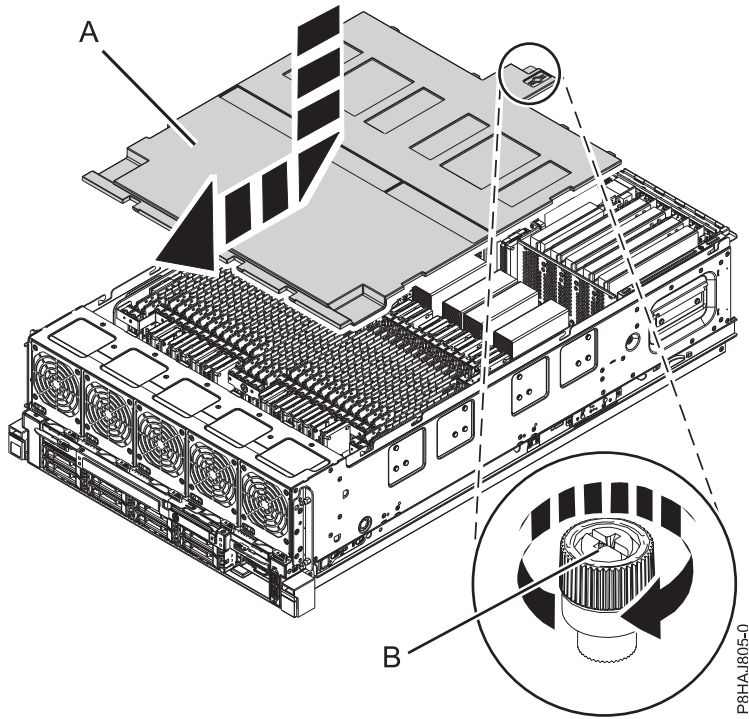

Figure 41. Replacing the safety cover
2. Push the safety cover (A) toward the chassis.
3. Tighten the thumbscrew (B) by turning it in the direction shown in Figure 41 on page 58 to fix the safety cover to the chassis.